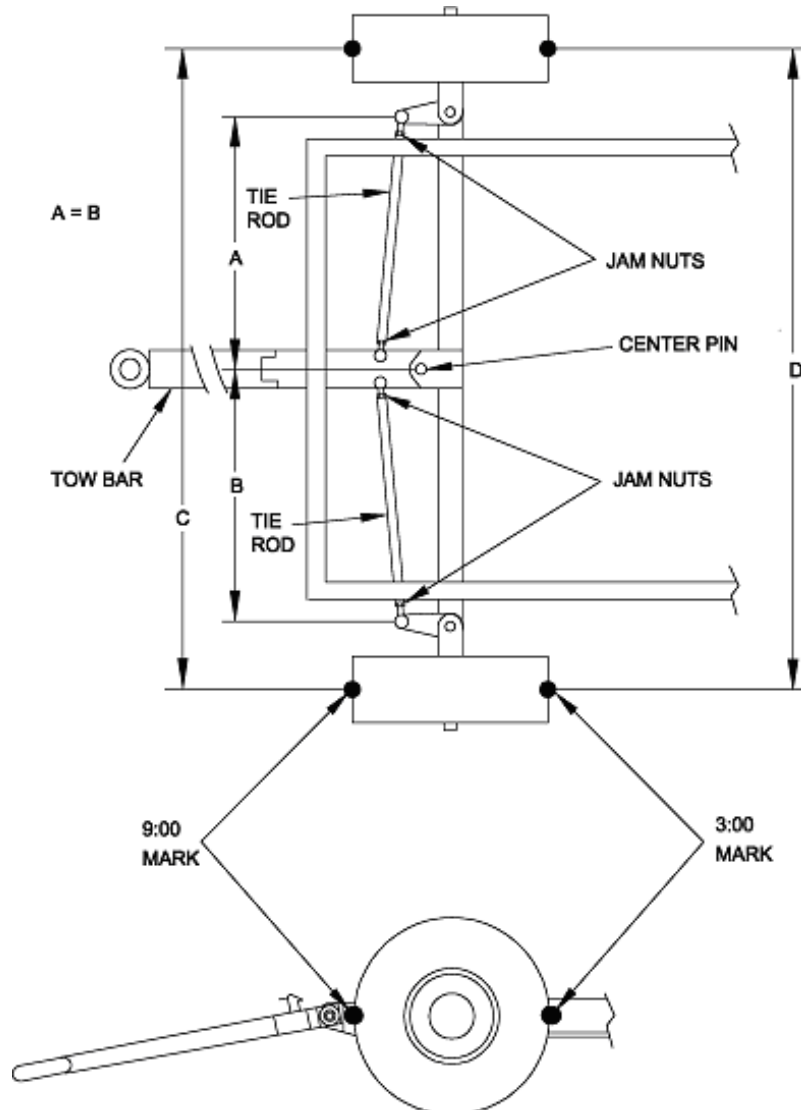
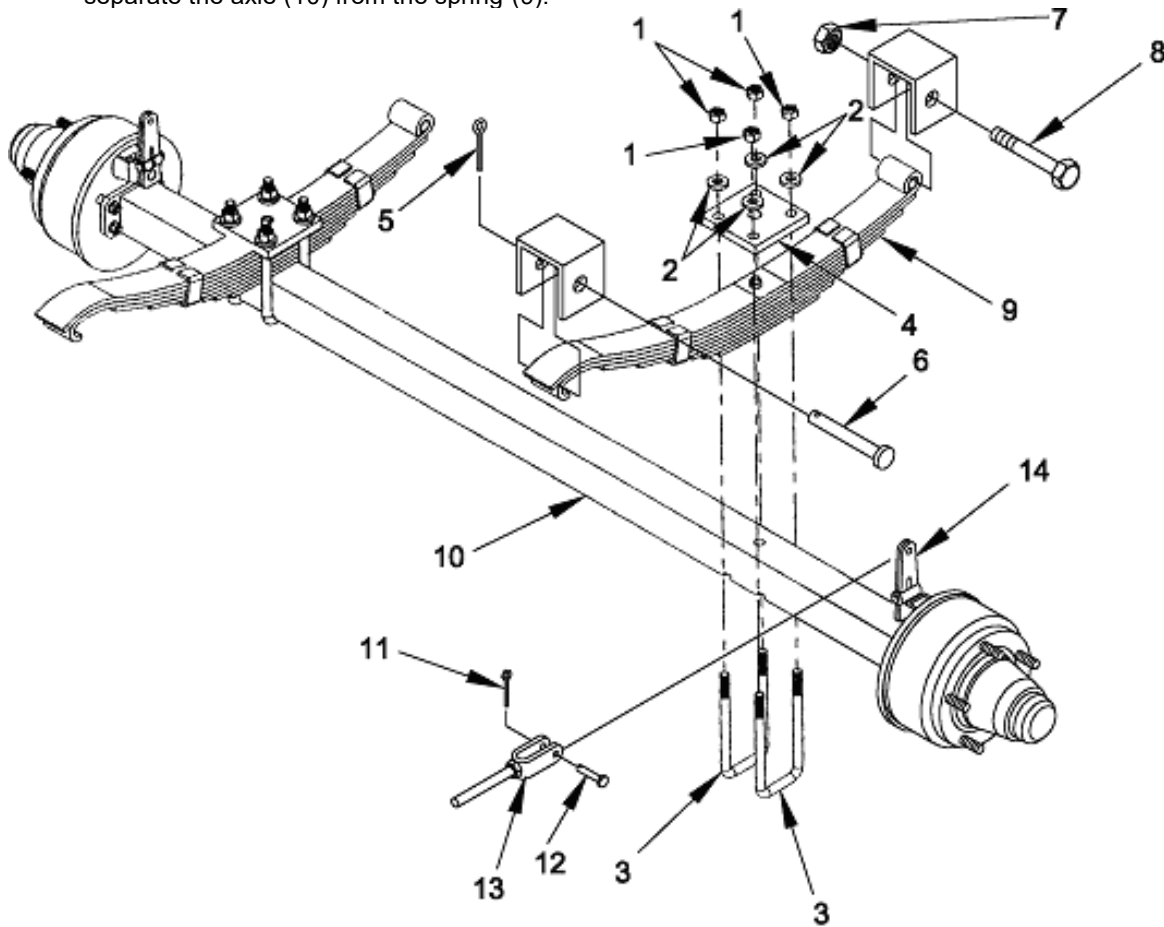
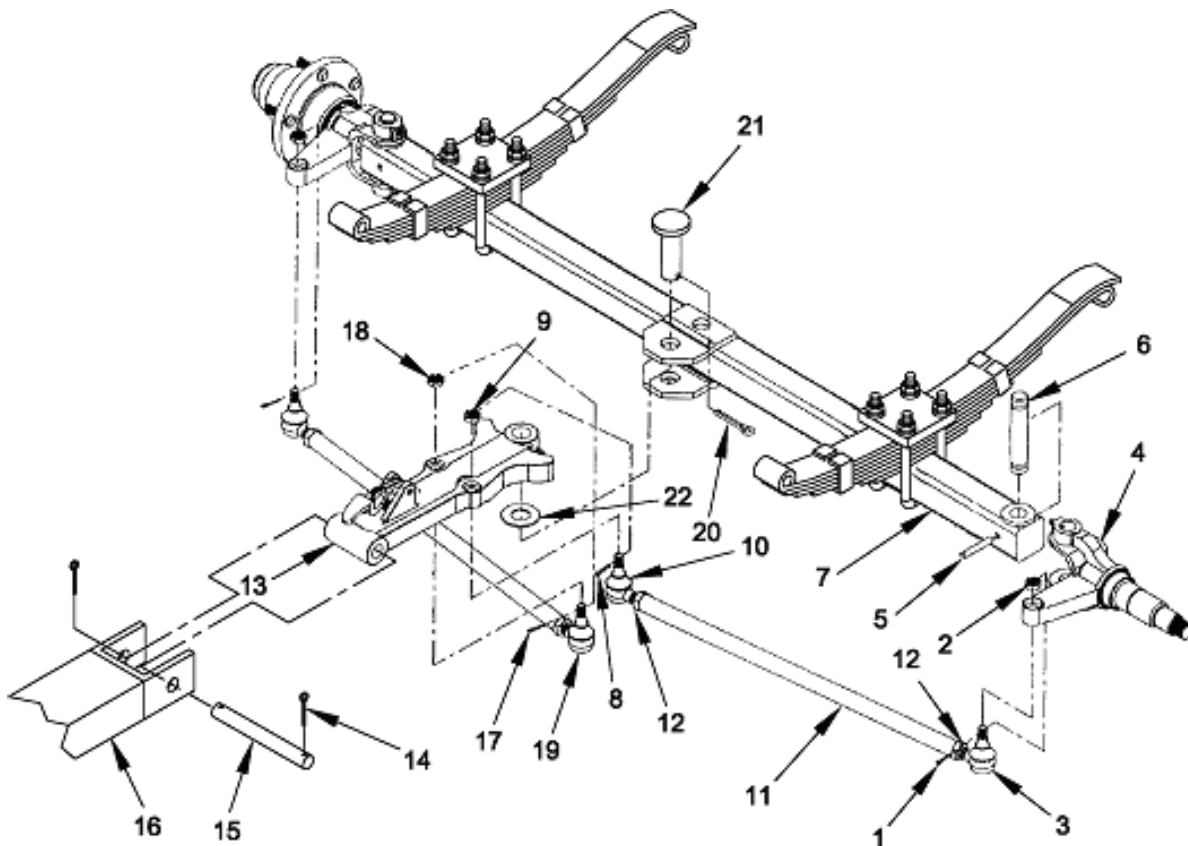

FIGURE 17 - Wheel Alignment
FIGURE 19 - Spring and Rear Axle Replacement
FIGURE 20 - Front Suspension and Steering Mechanism Service
4. Refer to Figure 17 and remove the hub cap (1), cotter pin (2), slotted nut (3) and washer (4).
5. Remove the outer bearing cone (5) and place it on a clean surface.
6. Pull the hub (6) off the spindle (9) while taking care not to damage the seal (7), then carefully pry the seal (7) out of the hub (6) and remove inner bearing cone (8).
11. Install the inner bearing cone (8) in the hub (6), then install the seal (7) with the seal lip and spring inward.
12. Slide the hub assembly onto the spindle (9) taking care not to damage the seal (7).
13. Install the outer bearing cone (5) on the spindle (9) and push it into place with the washer (4).
14. Install slotted nut (3) and tighten it until heavy drag is felt while attempting to rotate the hub (6).
9.18.2 Wheel Alignment (FIGURE 17)
4. Refer to figure 17 and remove the hub cap (1), cotter pin (2), slotted nut (3) and washer (4).
6. Pull the hub (6) off the spindle (9) while taking care not to damage the seal (7).
7. Refer to figure 19 and disengage the two lining retainer springs (2).
8. Spread the top of the brake shoes (3) apart to disengage the camshaft (5), then remove the shoes and retract spring (1).
9. Unhook the shoes (3) from retract spring (1).
10. Assemble replacement shoes (3) and retract spring (1).
11. Spread the top of the shoes (3) apart and position them on camshaft (5) against backing plate (6).
12. Secure the shoes (3) with retaining springs (2).
9.18.4 Spring Replacement (FIGURE 19)
5. Refer to figure 19 and remove the four lock nuts (1), flat washers (2), u-bolts (3) and plate (4). This will separate the axle (10) from the spring (9).
9.18.5 Rear Axle Replacement (FIGURE 19)
7. Refer to figure 20 and remove the cotter pins (11) and clevis pins (12) to disconnect the brake linkage (13) from brake assembly levers (14).
8. Remove the lock nuts (1), flat washers (2), u-bolts (3) and plates (4). This will separate the rear axle (10) from the springs (9).
9. Maneuver a replacement axle assembly (10) under the springs (9).
10. Assemble u-bolts (3) and plates (4) around axle (10) and springs (9). Secure with flat washers (2) and lock nuts (1).
11. Connect brake linkage (13) to brake assembly levers (14) with clevis pins (12) and new cotter pins (11).
9.18.6 Steering Knuckle And King Pin Replacement (FIGURE 20)
5. Refer to figure 17 and remove the hub cap (1), cotter pin (2), slotted nut (3) and washer (4).
6. Remove the outer bearing cone (5) and place it on a clean surface.
7. Pull the hub (6) off the spindle (9) while taking care not to damage the seal (7)
8. Refer to figure 20 and remove cotter pin (1) and slotted nut (2) to allow tie rod end (3) to be disconnected from steering knuckle (4).
10. Use suitable drift and hammer to drive out spring pin (5), then tap king pin (6) down out of steering knuckle (4) and axle (7).